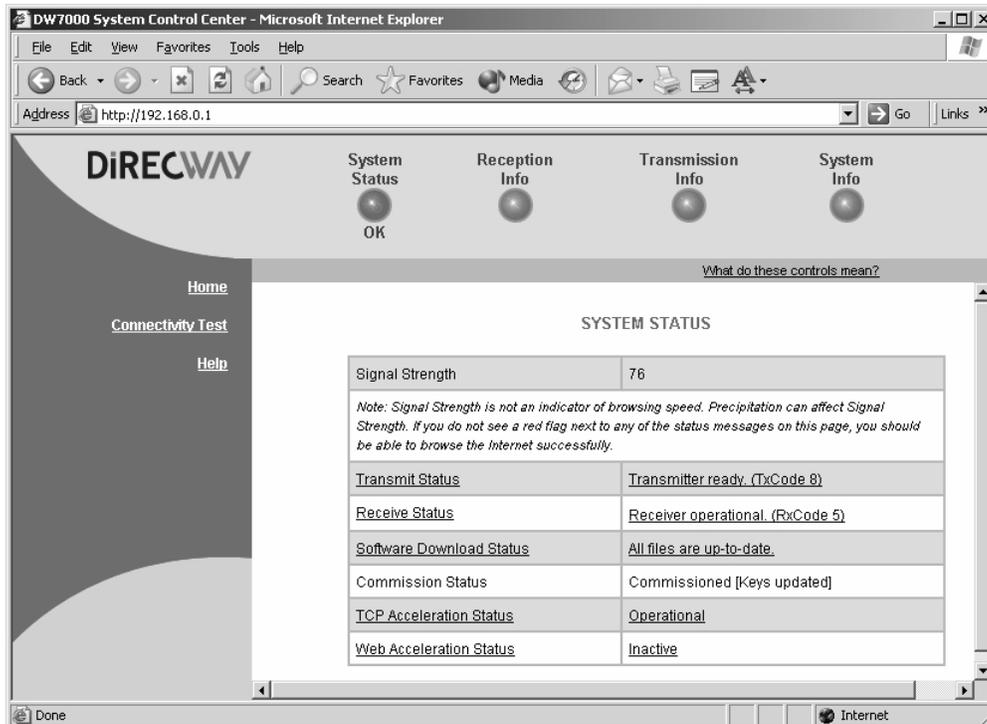

Figure 85: Confirming Web Acceleration is operational
2. Click the **System Status** indicator to access the System Status page. See Figure 85.